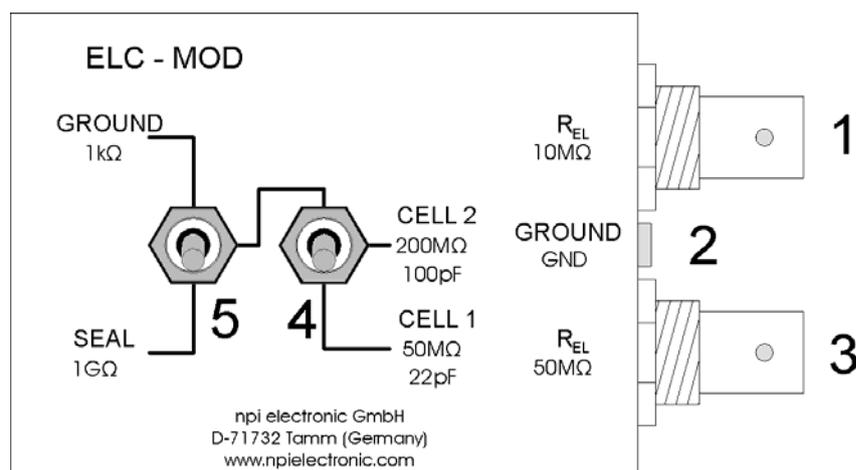

Figure 7: passive cell model
Set switch #4, Figure 7 to the upper position.
Set switch #5, Figure 7 to GROUND position. The $1\text{ k}\Omega$ resistor simulates the resistance of the bath solution. This can be used to train cancellation of offsets, using the bridge balance and using the capacity compensation.
Set switch #5, Figure 7 to SEAL position. The $1\text{ G}\Omega$ resistor simulates the SEAL resistance when forming a GIGASEAL in patch clamp experiments.
Intracellular recordings can be mimicked with one of two cells with different properties. Use the $50\text{ M}\Omega$ electrode connector (#1, Figure 7) for an experiment with sharp electrodes or the $10\text{ M}\Omega$ electrode connector (#3, Figure 7) for simulating an experiment with patch electrodes.
Switch the CELL membrane switch (see #4, Figure 7) to the desired position (CELL 1 or CELL 2).
- Connect the MICROELECTRODE connector of the headstage to ground. If parasitic oscillations occur use a 10 k Ω resistor for grounding. If you use a cell model set #5 in Figure 7 to GROUND and #4 in upper position.